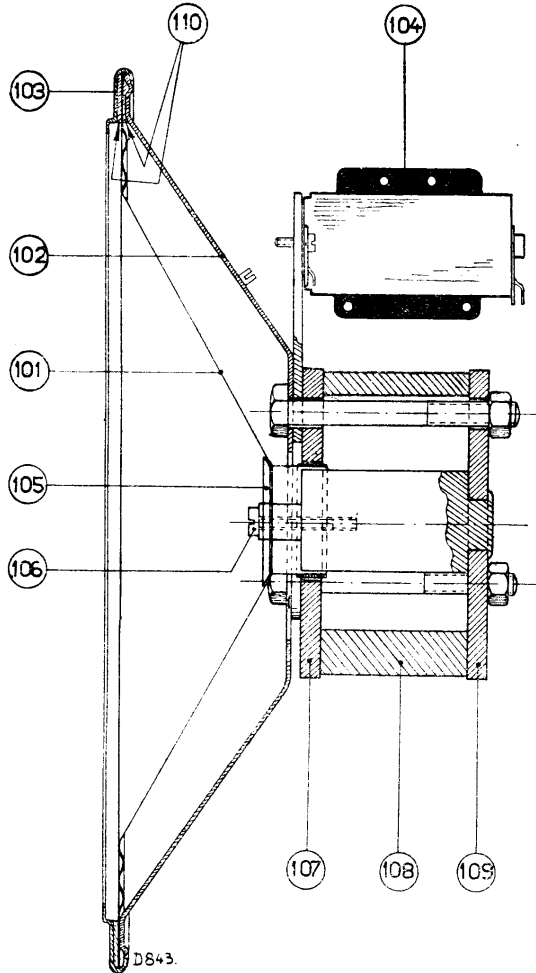

Fig. 5.
2. Under no circumstances may the front and back plates (fig. 5, item 107 and 109) be removed from the magnet, as this would impair its magnetism (as would also be the case when working on an iron bench).